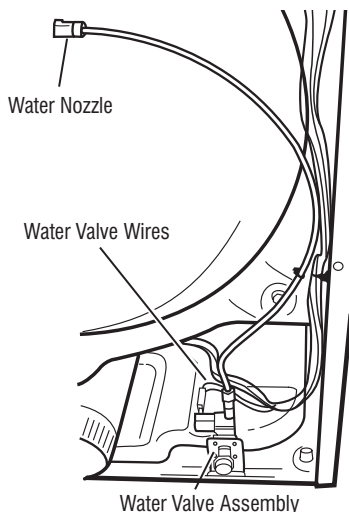

Figure 13 - Water System Components.
Activate the Loads Test (see page 5). Perform the diagnostic test "Console ID, Motor, Heater, and Water Valve." Verify that water is being sprayed into the drum. See figure 13.
- Check that the hose and wires are connected to the water valve assembly (see figure 13).